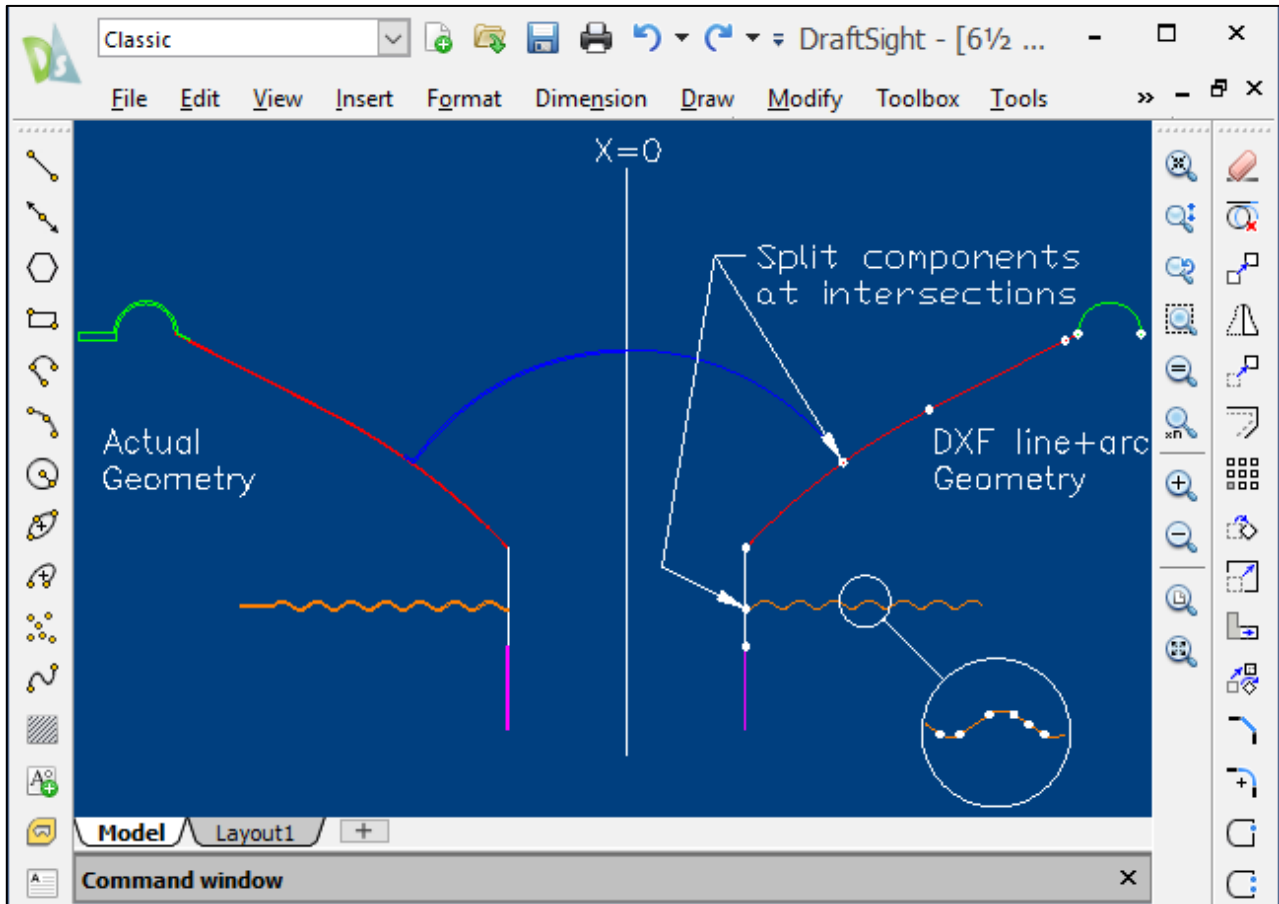

Figure 4 - DraftSight drawing - Left: Actual geometry - Right: DXF line + arc geometry
The left side Figure 4 shows a section view of a woofer. The same woofer is shown at right when prepared for FINECone analysis.
- b. Read and observe the DXF Hints (section 1.21) and Figure 4
Figure 4 shows an actual geometry at left. In the right side is shown how the corresponding DXF file should be made. Note that it must **only** use lines and arcs. We recommend DraftSight CAD software for making the DXF files, but most other CAD programs can be used.